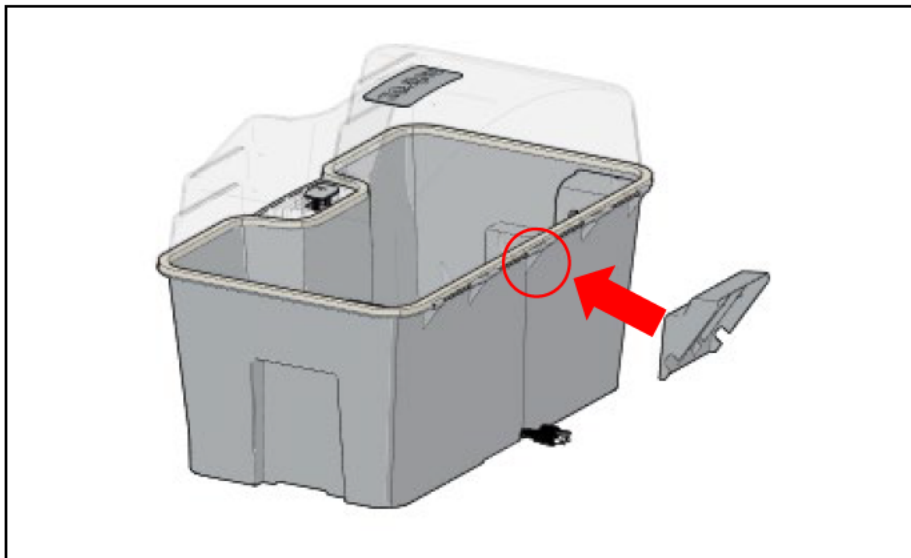

Figure 11: Remove the adhesive liner and align the bracket around the centermost rib on the NUTROZ device.
Step 3: Align the notch on the bracket to the rear side of the NUTROZ device. The NUTROZ device has a rib in the center as shown in Figure 11.